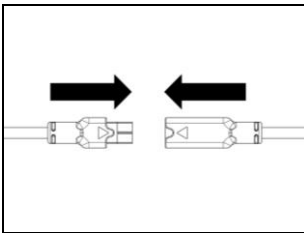

Fig. 9
- Connect the battery to the cable in the direction indicated by the arrows (Fig. 9).